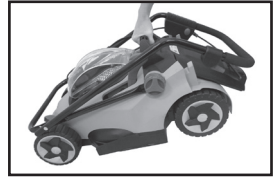

Fig. 1
Remove the body of the lawn mower from the packaging using the lifting handle (11) and place on a flat surface (Fig. 1).